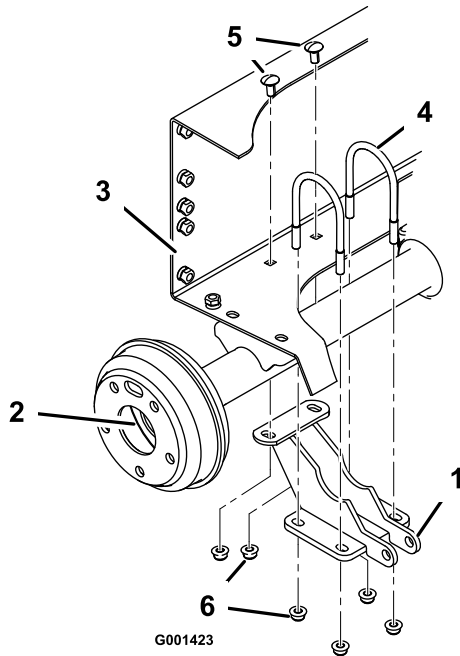

Figure 5
4. Loosely mount the lift cylinder support to the right end of the rear axle with 2 U-bolts and 4 flange nuts (3/8 inch) while aligning the mounting holes with the holes in the battery tray (Figure 5).
nuts (3/8 inch). Tighten the 4 flange nuts on the U-bolts equally to make sure the bracket is aligned to the axle. Tighten the two nuts securing the rear of the bracket to the rear frame (Figure 5).